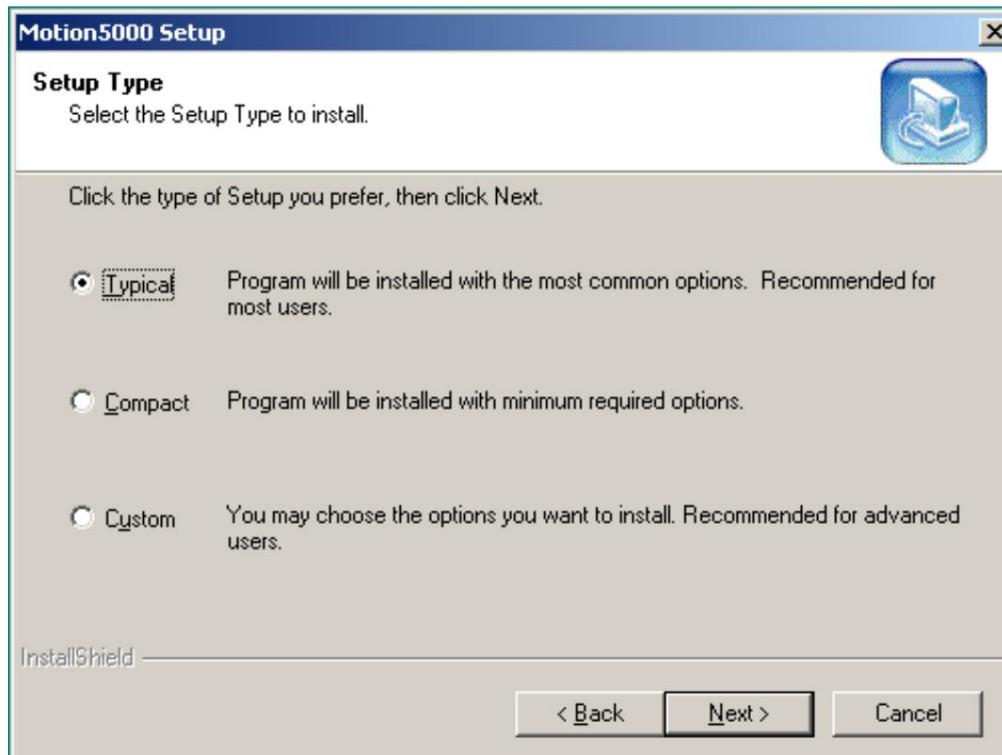

Figure 6-5 Select the installation method
5. Select the type of installation, and then click the Next button, as shown in Figure 6-5;